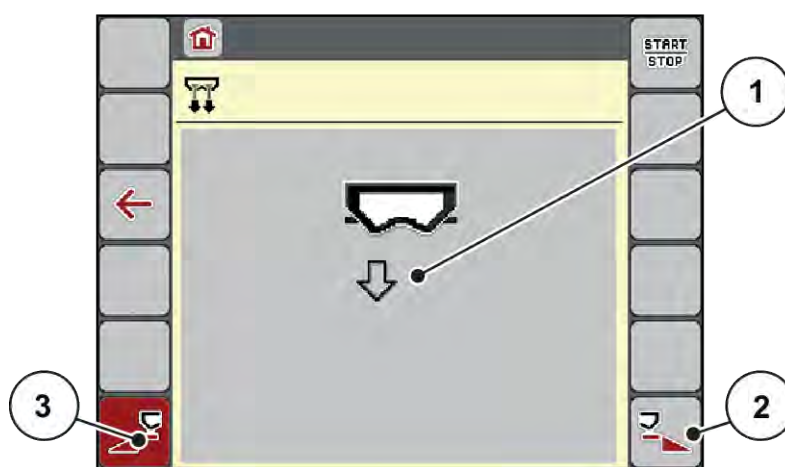

Fig. 27: Menu Fast emptying
*The selected section is displayed as an icon (Fig. 27 position [3]).*